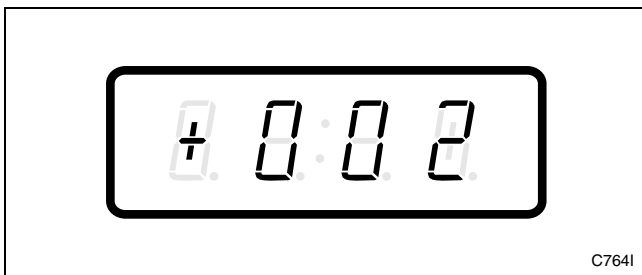

Figure 9
3. Press the DELICATES (+) or the COLD (-) keypad to scroll through the programmable options until “+002” appears in the VFD. Refer to *Figure 9*.